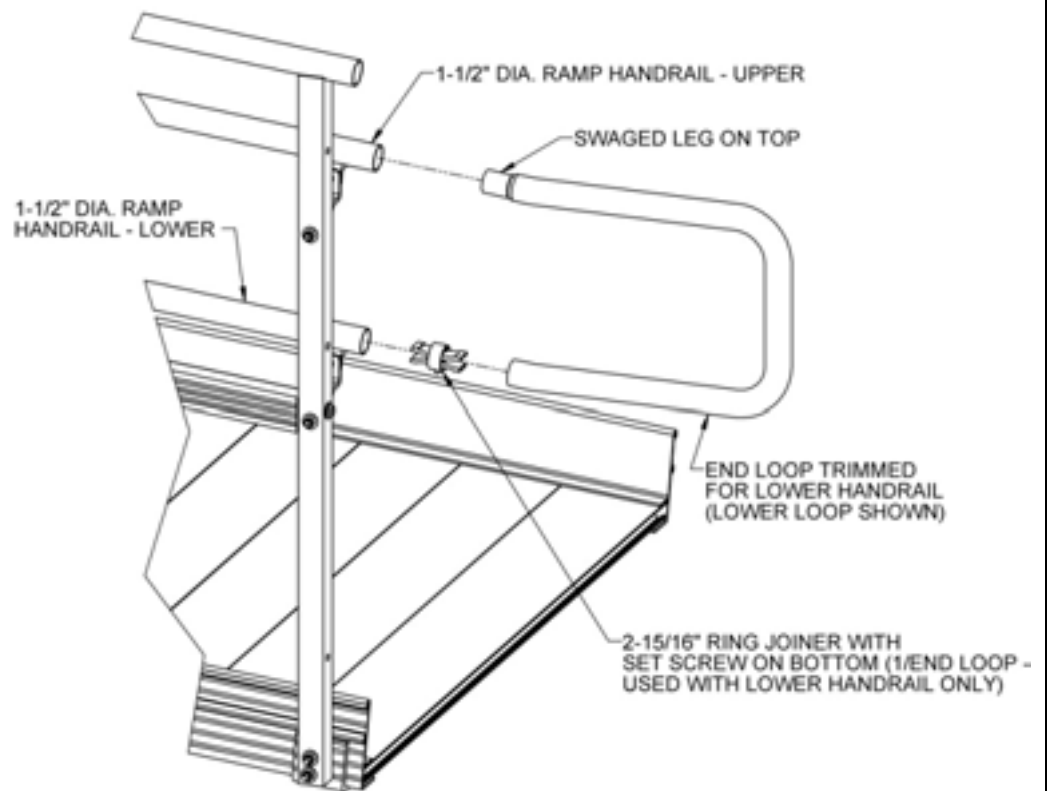

FIG. 6.10
- 6.4.2.3. Install a 2-15/16" ring joiner in the trimmed end of the lower 1-1/2" diameter ramp handrail. Orient the set screw in the ring joiner toward the underside of the handrail (FIG. 6.10).
- 6.4.2.4. Insert the swaged end of the loop as far as it will go into the upper handrail and position so it is adjacent to the ring joiner. Mark the lower leg of the end loop at the ring of the ring joiner and trim the lower leg at the marked location. Remove the end loop to achieve a square cut (FIG. 6.10).